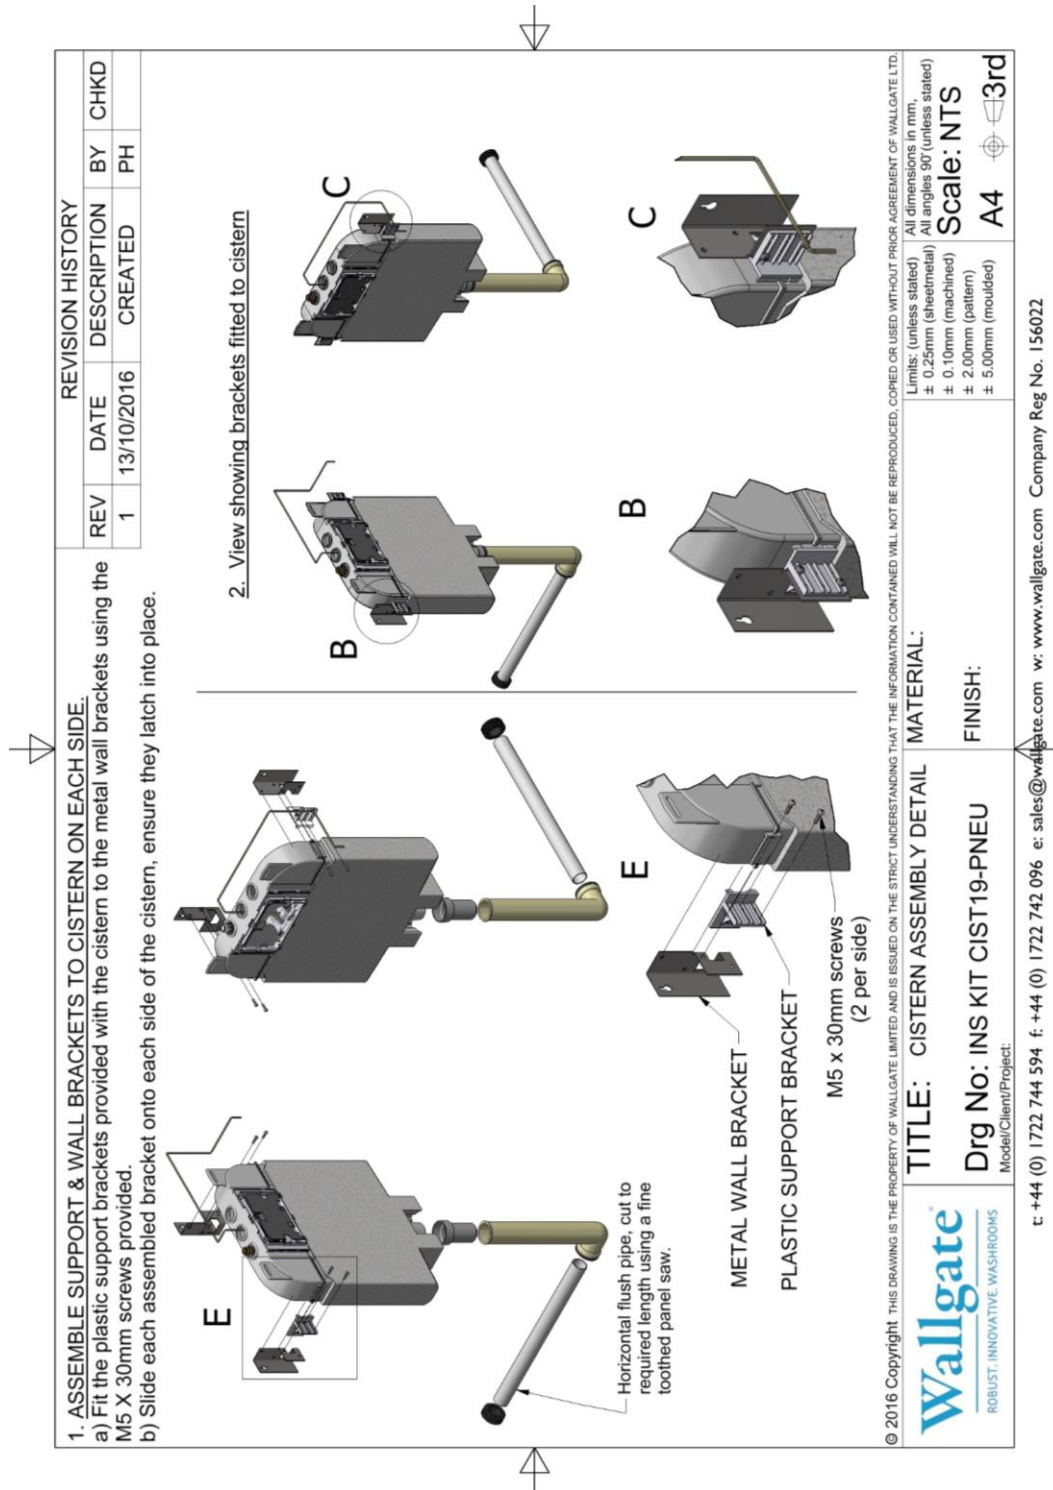

Fig: 3
- Assemble the support & wall brackets & then fit them to the cistern as per fig 3.